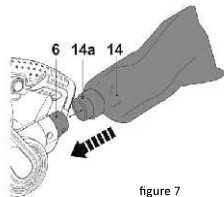

figure 7
- Align the dust bag connector (14a) with the dust extraction port (6).
- Push the dust bag (14) onto the dust extraction port (6) until it clicks into place (figure 7).